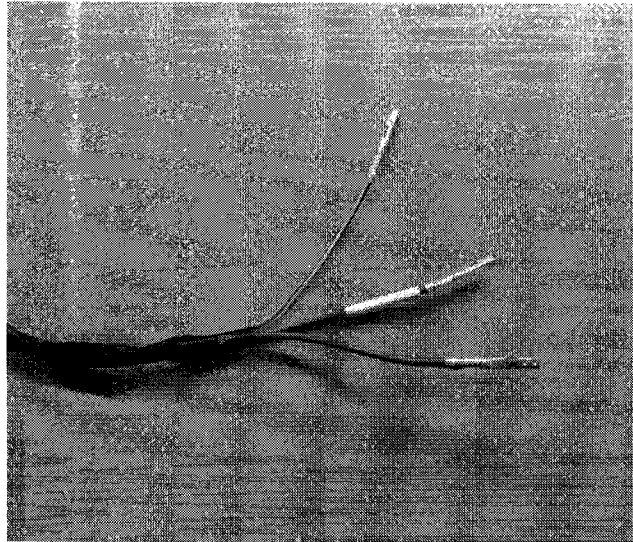

Fig. 6 Overlay Harness PDC Connection
9. Locate the overlay harness (p/n 68249172AA) and find the end that contains all three circuits (See Figure 6).